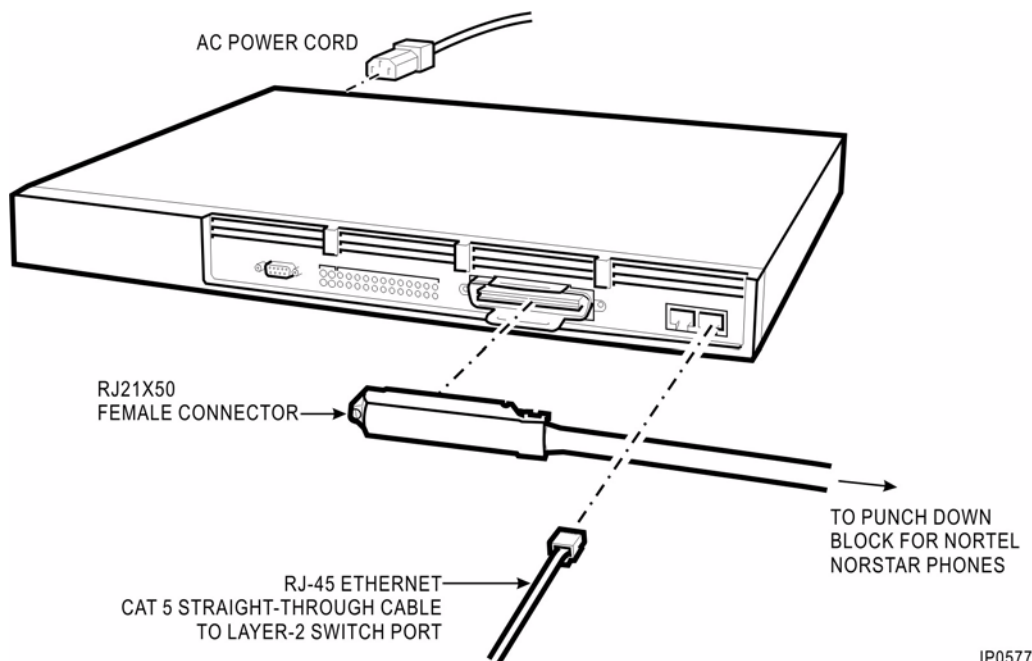

FIGURE 2. Connecting the cables
2. Connect a CAT 5 straight-through cable from the MDI-II ethernet port on the gateway to an ethernet port on a layer 2 switch (see FIGURE 2).